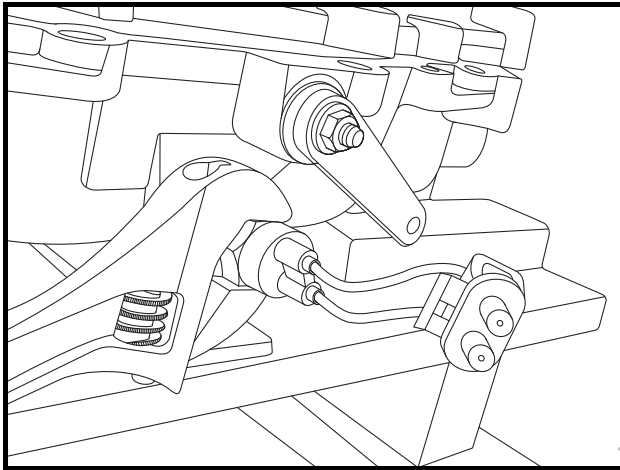

Figure 16-88 Neutral Limit Switch
12. Install the neutral limit switch and detent barrel assembly and tighten to 21 ft-lb (28 N·m) (**Figure 16-88, Page 16-26**).